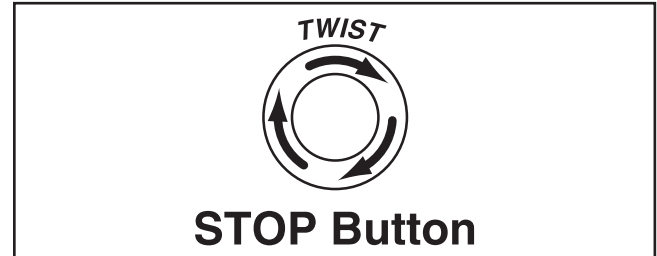

Figure 18. Resetting the E-STOP button.
5. Twist E-STOP button clockwise until it springs out (see **Figure 18**). This resets the switch so the machine can start.